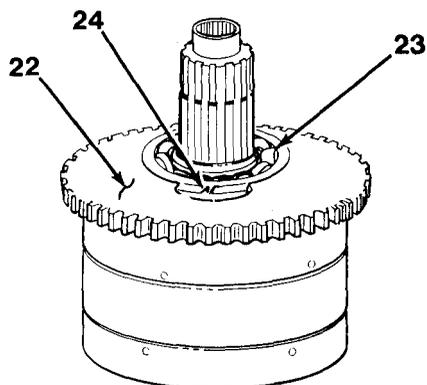
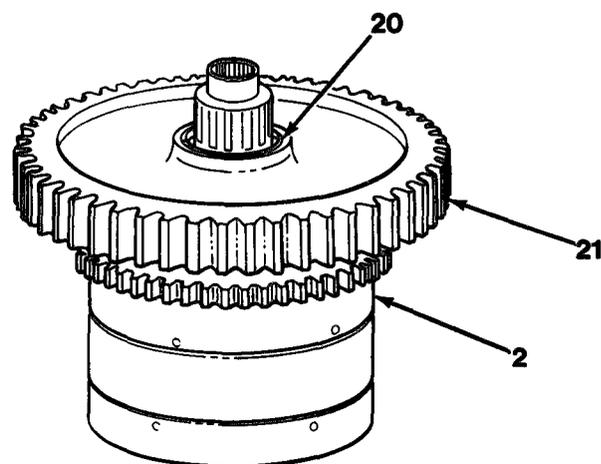
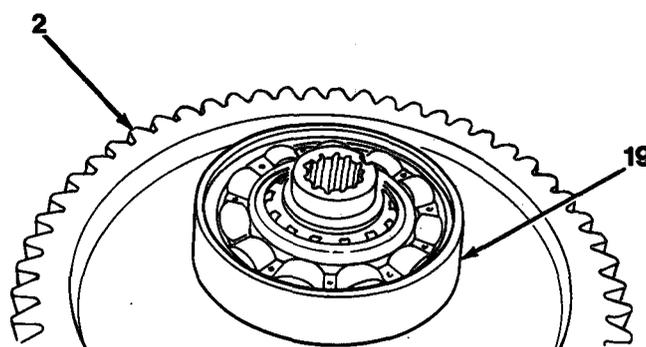

Figure 11-14
Figure 11-7
Figure 11-6
12. Open snap ring (24) to install bearing (23) into gear and hub welded assembly (22, Figure 11-14).
13. Install bearing (23) into gear and hub welded assembly (22).
14. Install third stage gear (21) on clutch shaft assembly (2, Figure 11-7). Note marking made during disassembly.
15. Install snap ring (20) on clutch shaft assembly (2).
16. Install bearing (19) on clutch shaft assembly (2, Figure 11-6) by using a press.